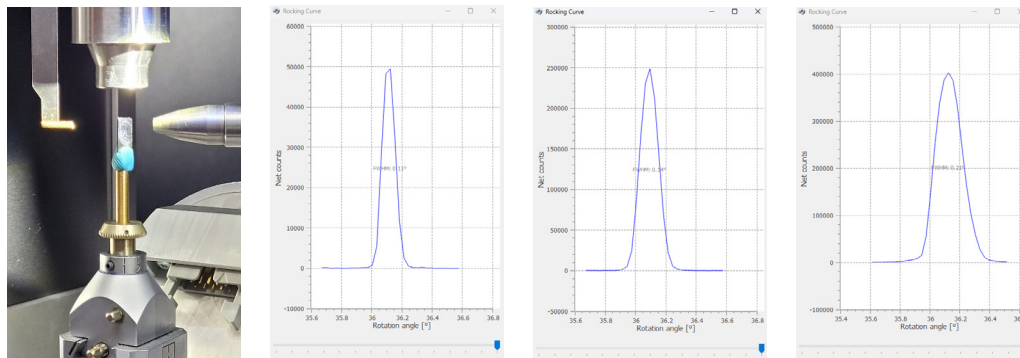

Figure 3
Instrumental broadening (beam divergence) was determined using the Si (111) reflection on a D8 VENTURE (Fig. 2) with a Mo μS DIAMOND II and PHOTON IV. Three collimators were tested with a step size of 0.03° and an exposure time of 0.4 s per frame (Fig.3).